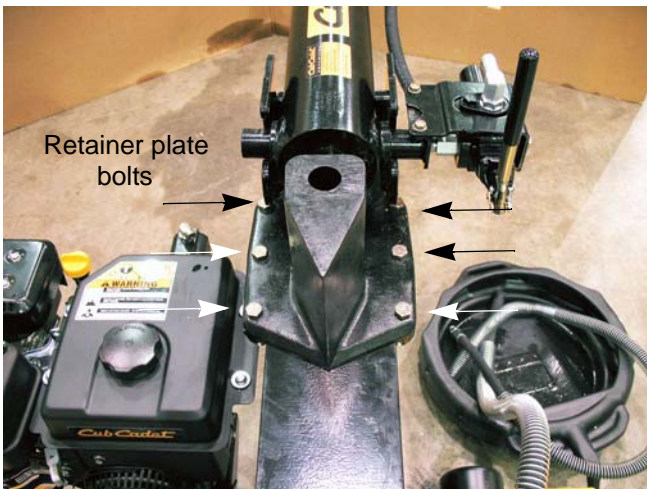

Figure 6.6
10. Remove the six nuts and bolts that attach the wedge retainers plates to the wedge using a pair of 3/4" wrenches. See Figure 6.6.